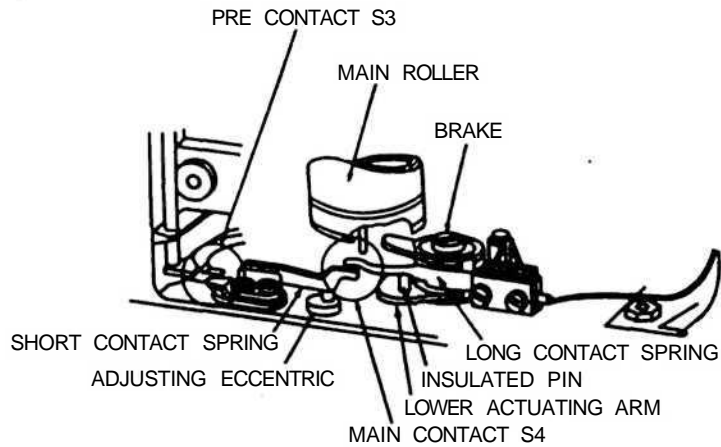
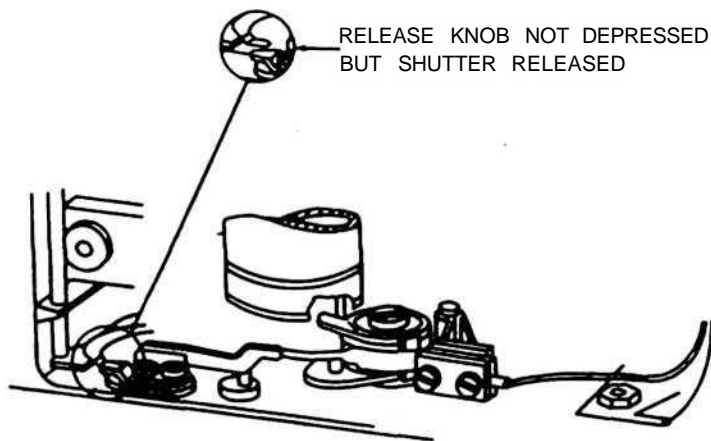

Figure 1-15. *Electronic Flash Circuit, Contacts Open.*
Figure 1-16. *Electronic Flash Circuit, Contacts Closed.*
- (1) The synchronizing contacts are located near the bottom of the main shutter roller assembly. The contacts are open when the camera is wound (fig. 1-15), and closed when released. (fig. 1-16).
- (2) The first shutter curtain, after clearing the film aperture, operates the shutter brake. The lower actuating plate of the brake presses an insulated pin (fig. 1-15) against the long contact spring. The long spring moves against a short contact spring and closes the circuit (fig. 1-16). When winding, the shutter brake is released, and the lower actuating arm moves back opening the contacts.